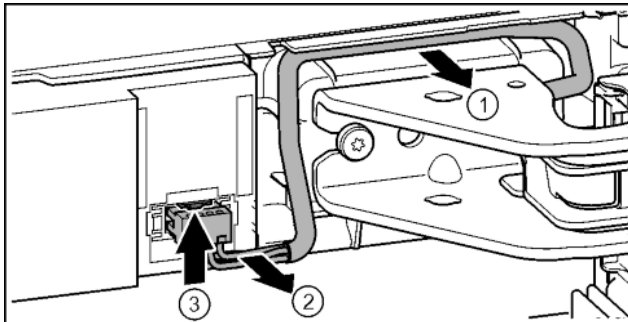

Fig. 18
- ▶ Carefully remove the cable over the bearing bracket from the guide. Fig. 18 (1)
- ▶ Carefully pull the cable strands out of the channel. Fig. 18 (2)
- ▶ Press the tab upwards and carefully remove the plug. Fig. 18 (3)